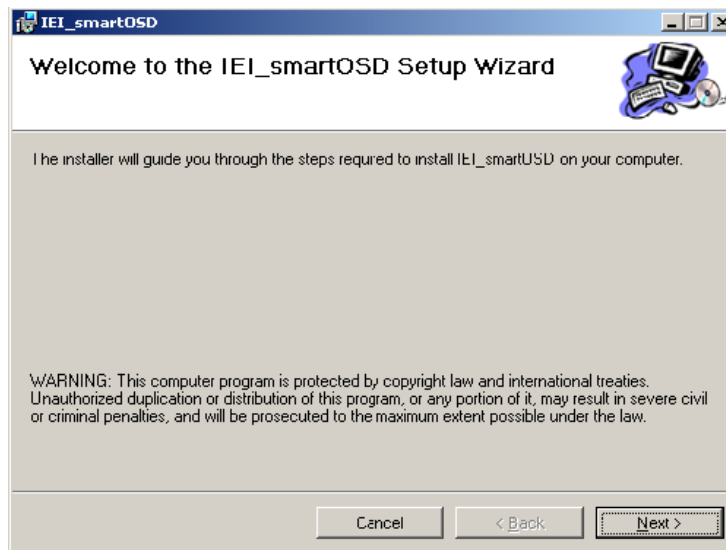

Figure C-1: smartOSD Welcome Screen
**Step 3:** The welcome screen shown in Figure C-1 appears.